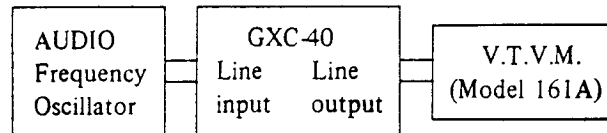

Fig. 13
1. PLAYBACK LEVEL ADJUSTMENT (See Figs. 13 to 15)
2. RECORDING AND PLAYBACK ADJUSTMENT (See Figs. 13 to 15)